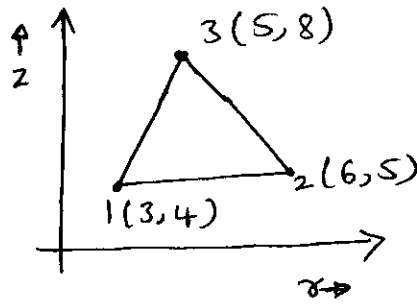

Fig.Q.7(b)
- b. Compute the strain displacement matrix for the axisymmetric triangular element. Use the following data: Fig.Q.7(b).